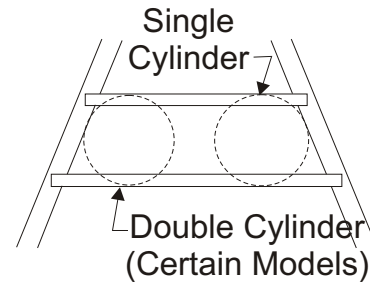

Fig. 31
1. Place the cylinder onto the steel angle rack. (Fig. 31)